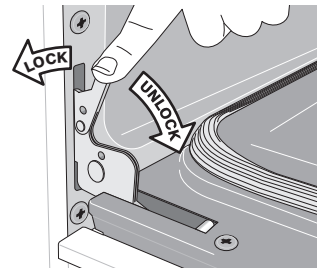

Figure 6: Door hinge locks
2. Pull the door hinge locks on both left and right door hinges down from the oven frame completely towards the oven door (See Figure 6). A tool such as a small flat-blade screw-driver may be required.
4. Push the door hinge locks up towards and into the oven frame on both left and right oven door hinges to the locked position (See Figure 6).